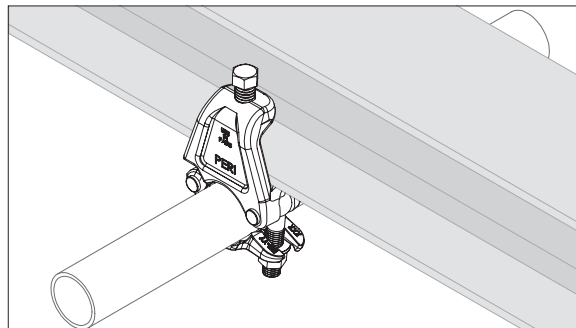

Fig. A10.10
Flange Couplings UEF (86) can be used on horizontal flange supports for suspended scaffolds or on vertical flange supports as scaffold ties. (Fig. A10.10)